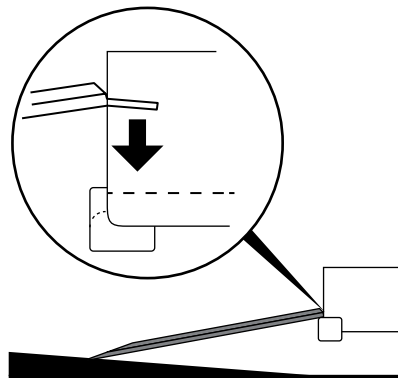

Figure 3-9
4. Place the ramp fingers or plate edges on the edge of the trailer or truck bed. See Figure 3-9.